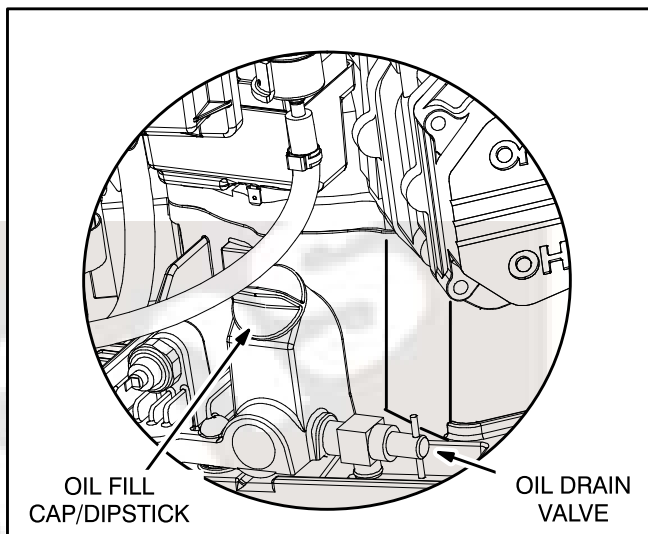

FIGURE 11. OIL FILL/DIPSTICK AND DRAIN VALVE
1. Unscrew the oil fill cap and wipe oil off the dipstick (Figure 11). **Screw the cap back on, remove it and check the oil level on the dip stick.**